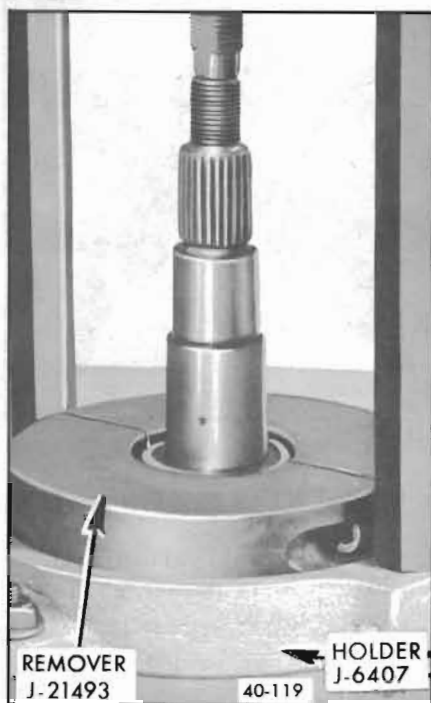

Figure 40-119—Removing Rear Pinion Bearing
5. If rear pinion bearing is to be replaced, remove rear pinion bearing from pinion shaft using Remover J-21493 with Holder J-6407. See Figure 40-119.